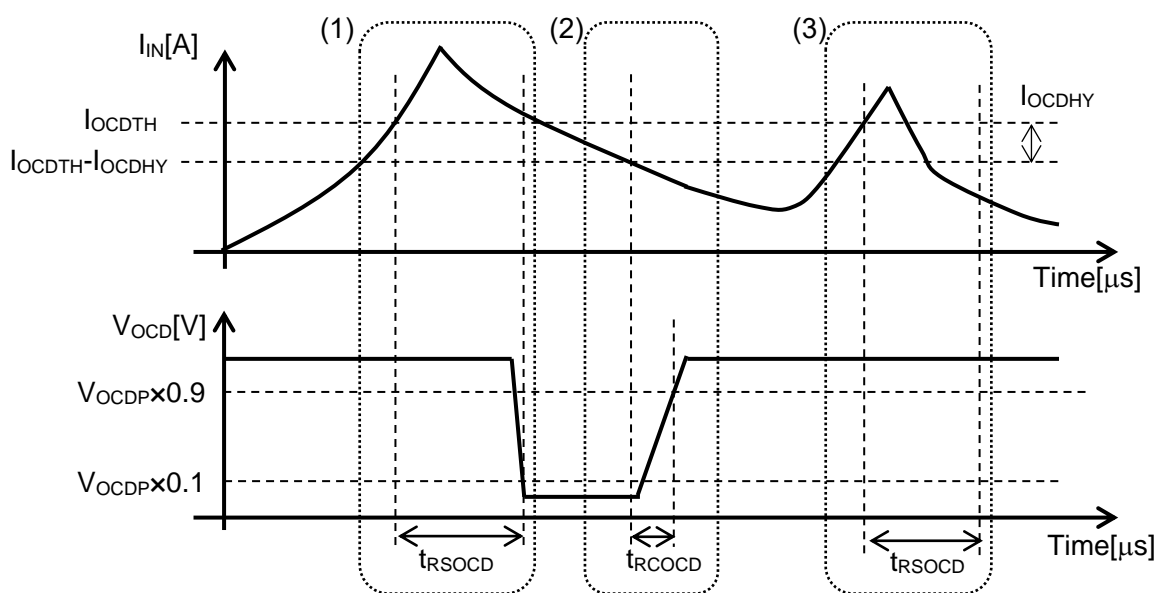

Figure 6. Overcurrent Detection Function of CZ-3A03
10.4. Overcurrent Detection Function is operated as below. (See figure 6.)